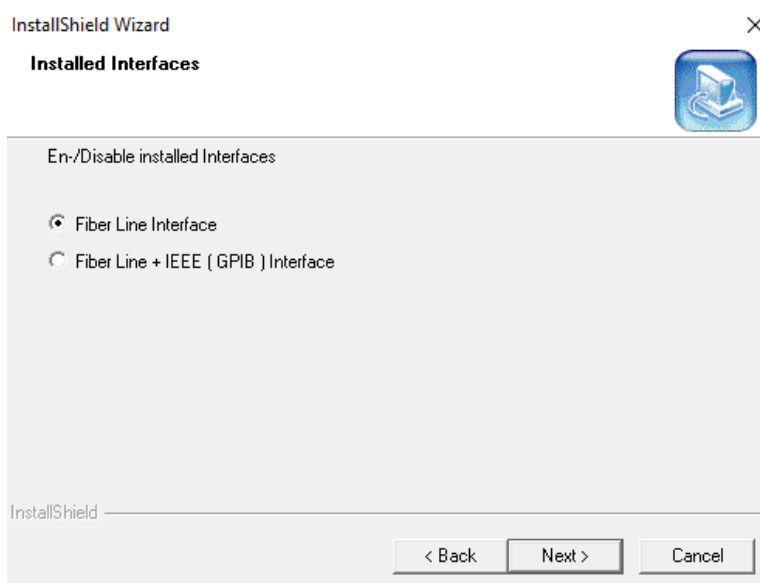

Figure 3-7. Isodat installation - Fiber Line Interface
10. In the Installed Interfaces dialog, select **Fiber Line Interface**. Click **Next**, see Figure 3-7.